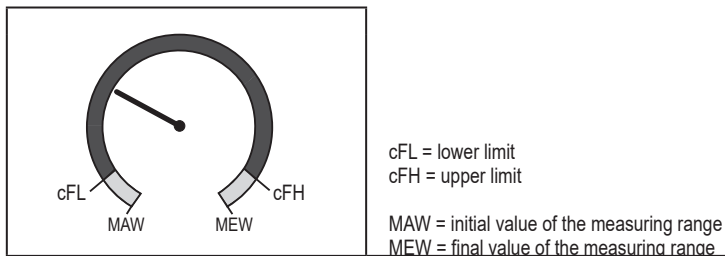

Fig. 2: Colour setting window function
- Colour change from red to green or vice versa (Fig. 2):